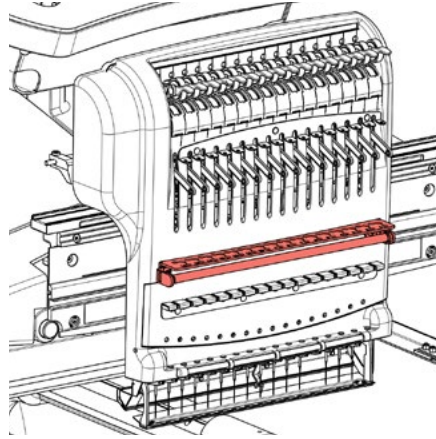

Figure 7 - Thread Feeder Clicker
14. Adjust the bearing on the color change housing so that the red thread feeder clicker for needle #1 is compressed about 50% from the fully extended position. See Figure 7. Make sure the bearing is also centered left to right on the thread feeder clicker.